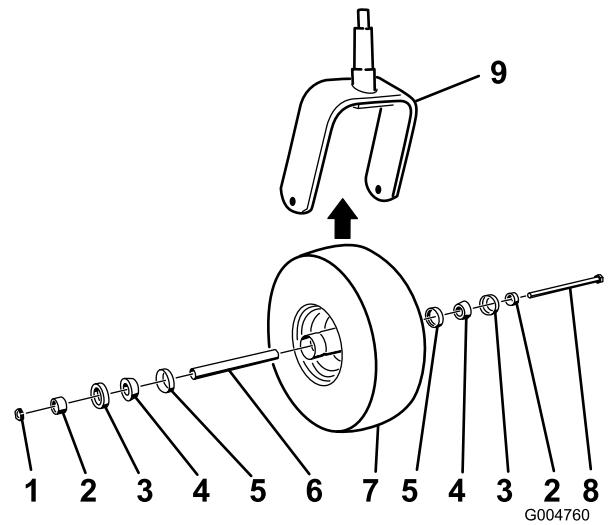

Figure 73
5. Assemble the caster wheel by pushing the cone bearings and seals, packed with grease, into the wheel hub, positioned as shown in Figure 73.
2. Remove the locknut from the bolt holding the caster wheel assembly between the caster fork (Figure 73).